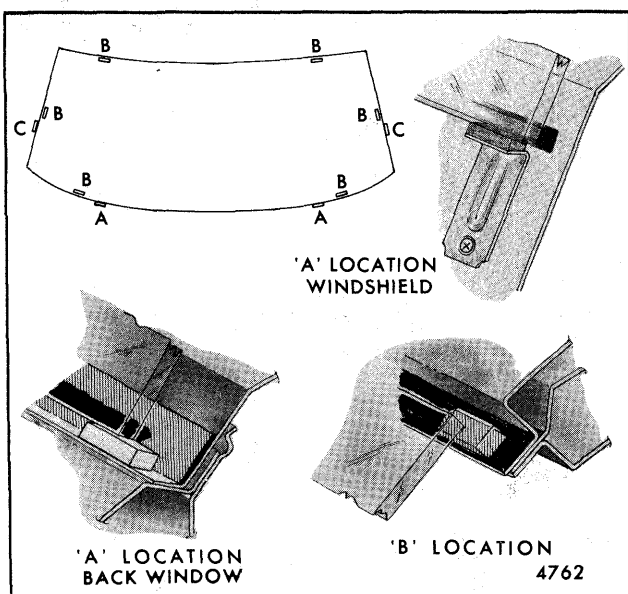

Fig. 11-11-Glass Spacer Installation
2. Properly position windshield lower supports or spacers (back window) Part No. 7694478 (.34 x .44 x .75) or equivalent as indicated in Figure 11-11 ("A" location) and position glass in opening. If new glass is being installed, check relationship of glass to adhesive material on pinchweld flange. Gaps in excess of 1/8" must be corrected by shimming or by applying more adhesive material than specified in step 7.
12. Cement a rubber spacer between both right and left side of glass and body metal to assure that glass will remain centered in opening while adhesive material is curing (Fig. 11-11, item "C").
3. Using black weatherstrip adhesive or adhesive material, cement flat rubber spacers No. 4459429 or equivalent to window opening pinchweld flanges. As shown in Figure 11-11, location "B", spacers should be positioned to provide equal support around entire perimeter of glass.
4. Figure 11-11, location "A", illustrates rectangular spacers positioned in typical back window installation. Reinstall metal supports at lower edge of windshield glass (in lieu of two lower "A" spacers indicated in back window installation).
- a. Part No. 4459429 or equivalent (.20 x .63 x 1.0) stand off spacers for maintaining glass 3/16" from body opening - see location "B", Figure 11-11.
- b. Part No. 7694478 or equivalent (.34 x .44 x .75) lower and side support spacers - see locations "A" and "C", Figure 11-11.
- c. Part No. 9848544 or equivalent (.52 x .44 x .75) lower and side support spacers - see locations "A" and "C", Figure 11-11.
- d. Part No. 9613680 or equivalent (.36 x .44 x 1.0) lower and side support spacers - see locations "A" and "C", Figure 11-11.
17. Cement a rubber spacer between both right and left side of glass and body metal to assure that glass will remain centered in opening while adhesive material is curing (Fig. 11-11, item "C").